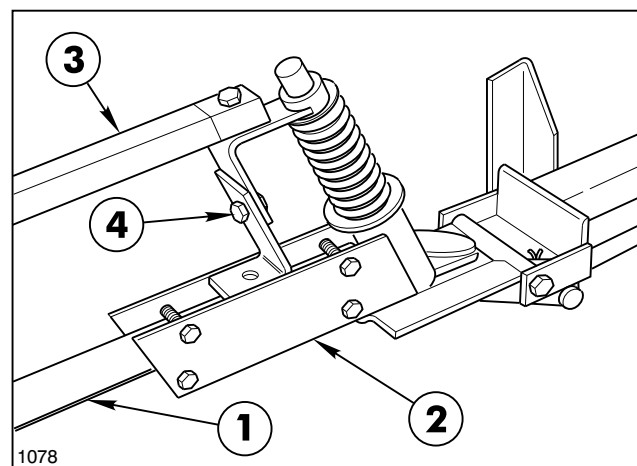

FIG. 12
11. Insert the plugged end of an Extension Boom Pipe into the Pivot Assembly and secure with four (4) 1/4" x 1-1/4" cap screws and lock nuts. See FIG 12. Repeat on the opposite side to assemble the other Extension Boom.
12. Attach the Boom Support Assembly to the Pivot Assembly, using a 5/16" x 1-1/2" cap screw and lock nut. See FIG. 12.